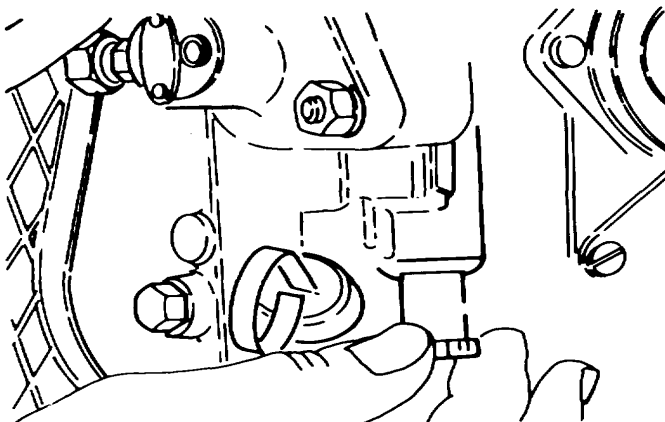

Figure A-67. Fuel Primer Device
a. Model 18A430 has a primer knob built into the crankcase below the injection pump. It operates much like the lever already described, except it must be pulled downward to prime the engine. On all models, the speed control must be full open before the primer device will engage. Model 15A430 has no priming device. (Figure A-67.)